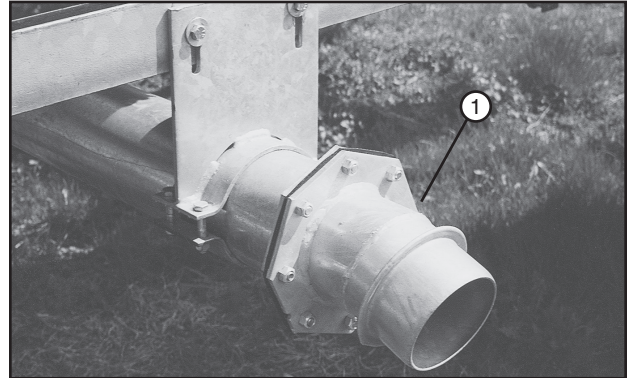

Figure 85-1 1. Hose Inlet
1. Disconnect the water supply and transition hose from the cart. Move them out of the path of the Linear cart and drive units. See figure 85-1.